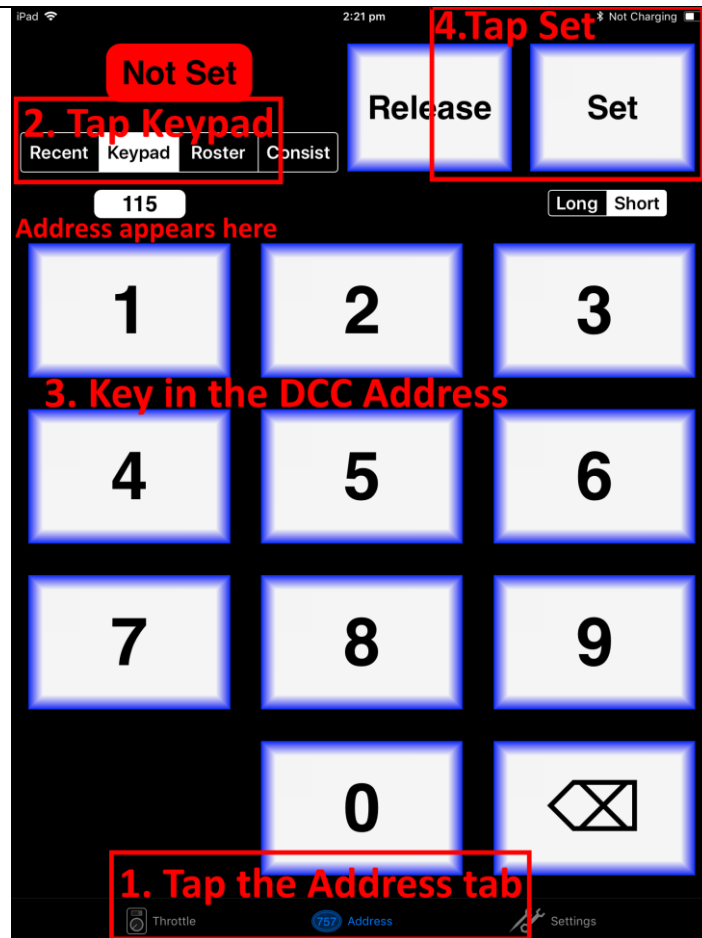

Figure 8 The Address tab of WiThrottle. Select a loco to drive
(10) Now tap the “Address” tab at the bottom (it might go there automatically), tap Keypad and key in the DCC address of the locomotive that you wish to drive then tap the Set button as Figure 8.